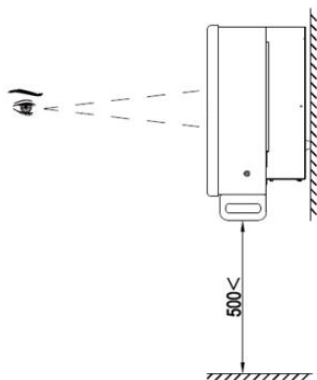

Fig 4.3 Optimum installation height area
(2) There is enough reserved space around the installation site to facilitate the disassembly and assembly of inverter and air convection. As shown in Fig 4.3.